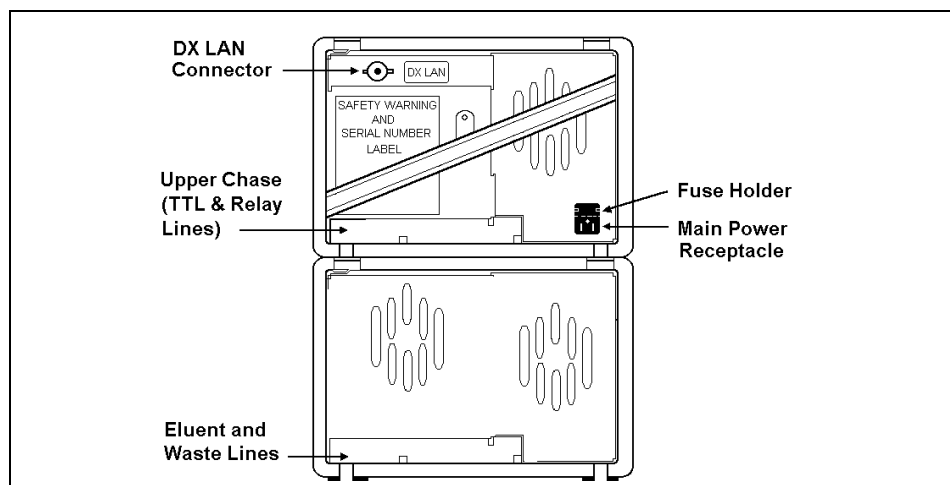
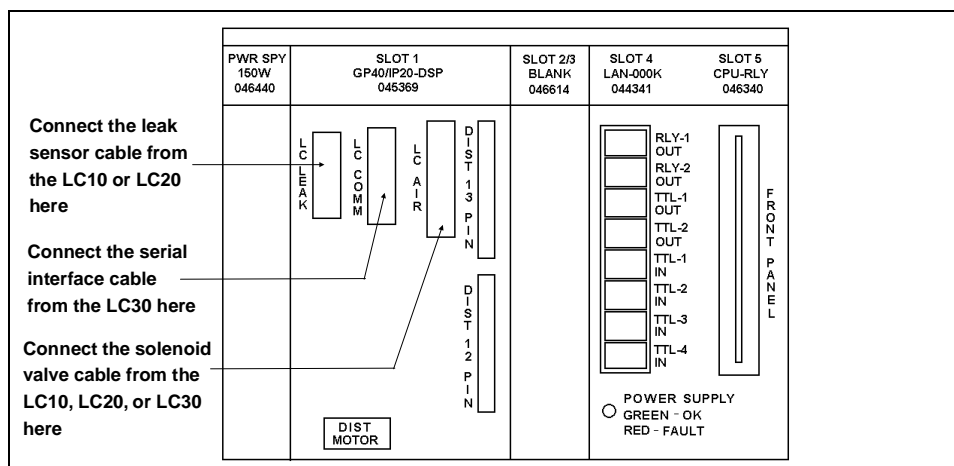

Figure B-1. GP40 Rear Panel
Figure B-2. GP40 Electronic Chassis
For on/off control from the GP40, connect the modular power cord (IEC 320 C13), provided with the module, from the main power receptacle on the rear panel (see Figure B-1) to a grounded, single-phase, power source.
1. Route the RJ-11 serial cable from the rear of the LC30 Chromatography Oven through the GP40 upper chase (see Figure B-1) or through one of the side slots. Connect the cable to the **LC COMM** connector on the pump electronic chassis (see Figure B-2).
1. Route the leak sensor cable from the rear of the LC10 Chromatography Organizer or the LC20 Chromatography Enclosure through the GP40 upper chase (see Figure B-1) or through one of the side slots. Connect the cable to the **LC LEAK** connector on the pump electronic chassis (see Figure B-2).
1. Remove any TTL/Relay plugs from the connectors at slot 4 on the electronic chassis (see Figure B-2).